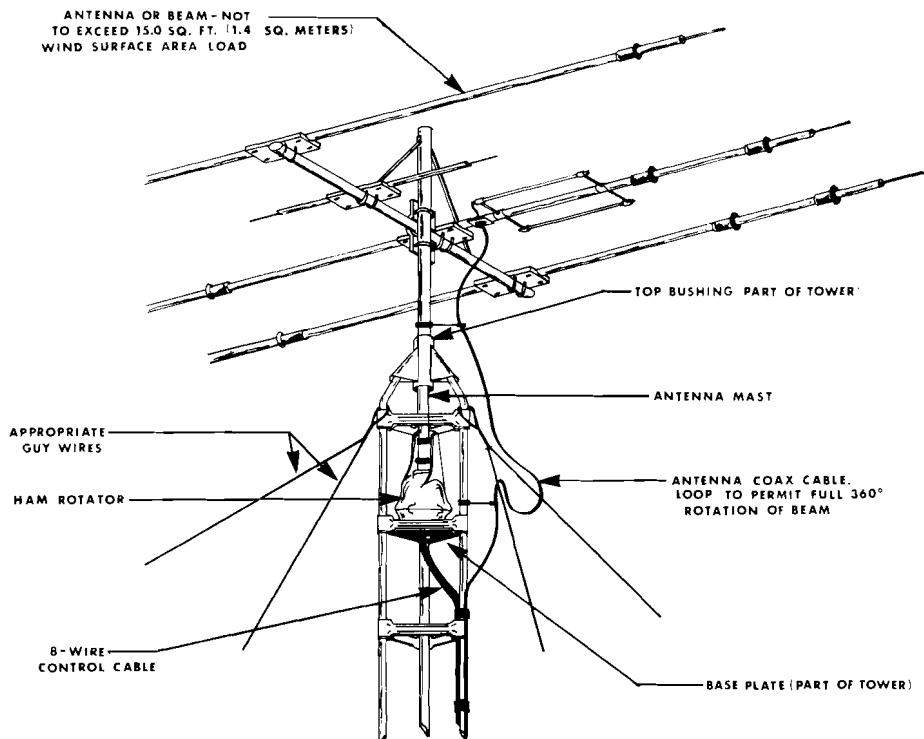
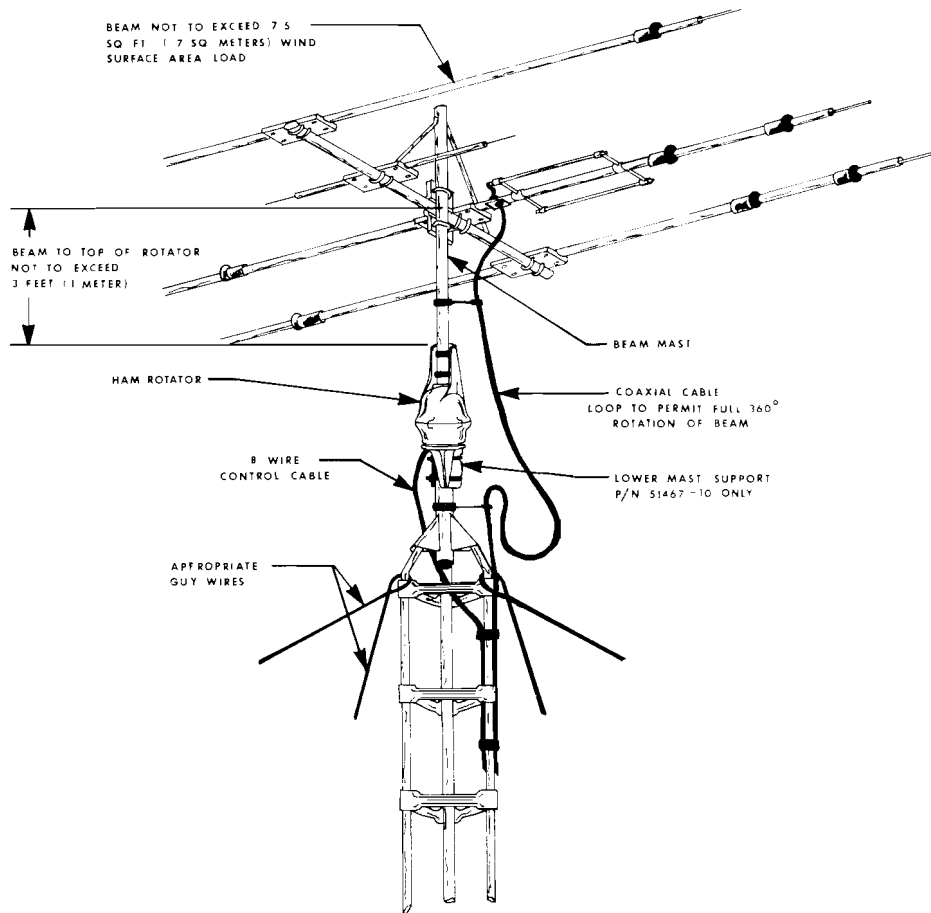
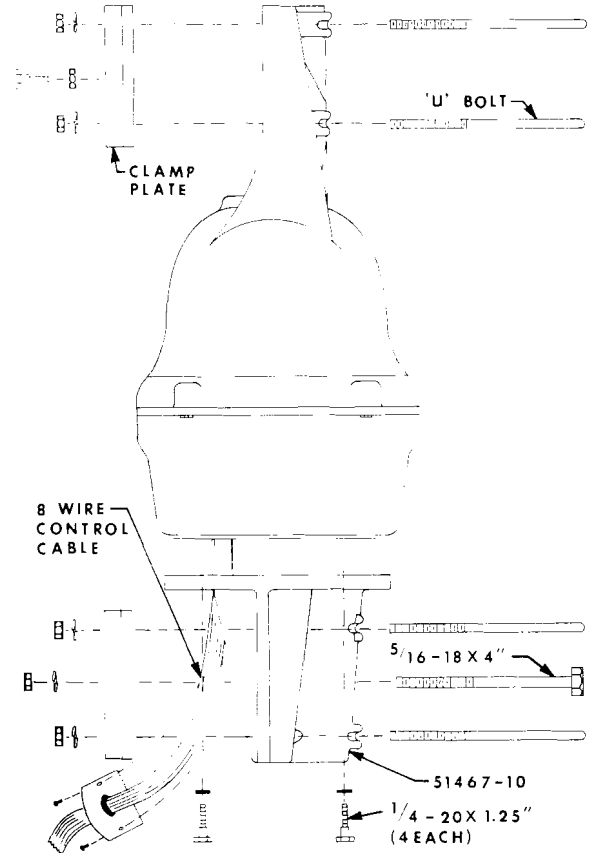

FIG. 1
FIG. 2
FIG. 7
- D. When not mounted within a tower with a thrust bearing as shown in Figure 1, the rotator must be **DERATED**.
- G. Optional lower heavy duty Mast Support Kit must be procured if the owner elects to use an "outside" tower mount (see figures 2 and 3). The part number for the Lower Mast Support Kit is 51467-10. "Inside" tower (figure 1) is recommended.
There are three general types of installations (see figures 1 through 3).
2. An "outside" tower mount as shown (See Figure 2) is optional. The rotator is not as well protected but the installation is simpler. The owner must procure the Heavy Duty Lower Mast Support Kit, P/N 51467-10, to install as in figure 2 and derate to 7.5 square feet.
There are variations of the above falling generally into one of the above categories. For example, the rotator may be mounted lower in the tower than shown in Figure 1. In that case, more than one bushing or thrust bearing for the beam mast may be required and longer coast down time allowed in operation. These factors are interrelated and the components must be matched together
A. **INSIDE TOWER.** The rotator is mounted inside a tower (see figure 1) to the flat tower plate by means of four bolts furnished in the hardware kit. Use the following procedure:
9. Return the rotator to the full CW "S" position. Mount the beam pointing South. The coaxial cable should be looped as per Figure 1, in such a manner that it will not foul or tangle when the beam turns around in a circle to the full 360° counterclockwise position.
Referring to figures 2,3, and 7, an outside tower or pole mount is made in the same manner except that the rotator is fastened by four bolts to the lower mast support, P/N 51467-10. Since the eccentricity of the rotator turning in reference to the tower is no longer important, the shimming procedure is not necessary. The four screws must be torqued to the same specification, and the 8-wire cable securely fastened. The lower mast should be pinned with the 5/16" - 18 x 4" bolt as shown in Figure 7. **CAUTION:** The rotator is designed for vertical operation with the bell shaped housing in the up position. Water and other contamination will get into the motor unit if it is mounted horizontally or upside down.
The stock HAM IV is intended to mount on the base plate inside of the tower. However, in some instances outside tower or mast mounting is desired as per figures 2 and 3. This kit, part number 51467-10, contains a heavy duty lower mast support and the necessary hardware to facilitate mounting the HAM IV on top of a tower stub or mast. Caution, when the rotor is installed using the lower mast support kit, the antenna size must be restricted to 7.5 square feet of wind surface area.